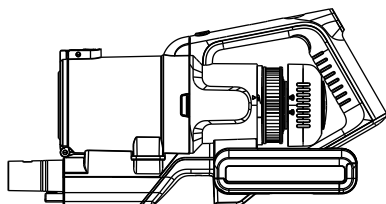

Fig. 19
7. To clean or replace the post-motor filter, turn the cover anticlockwise and lift off the cover (Fig. 19), remove the filter (Fig.20), wash and dry the filter in accordance with step 4.
2. Remove the floor head from the cleaner (Fig. 19).